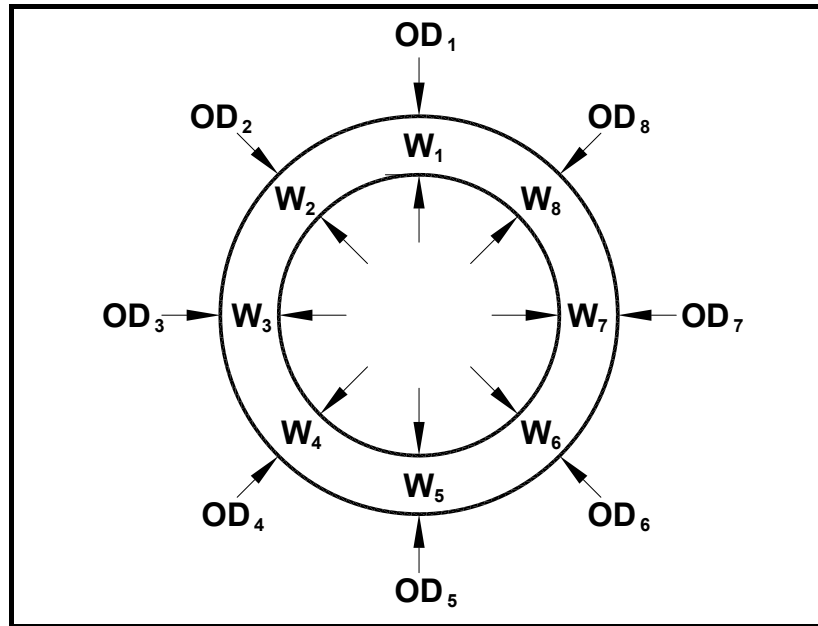

Figure 1-5: Measuring the OD and Pipe Wall Thickness
4. Now measure the OD and the wall thickness at eight points along the pipe circumference at 45° intervals (shown in Figure 1-5 below), three times per point, and record the mean values.
2. To determine the GC868 correction factor, calculate the mean inside pipe diameter (ID) and the pipe ID at the transducer locations. Then divide the square of the mean ID by the square of the ID at the transducer location, as shown in the equations below, where OD_x is the outside diameter at a given point, and W_x is the wall thickness at a given point (see Figure 1-5 on page 1-9).